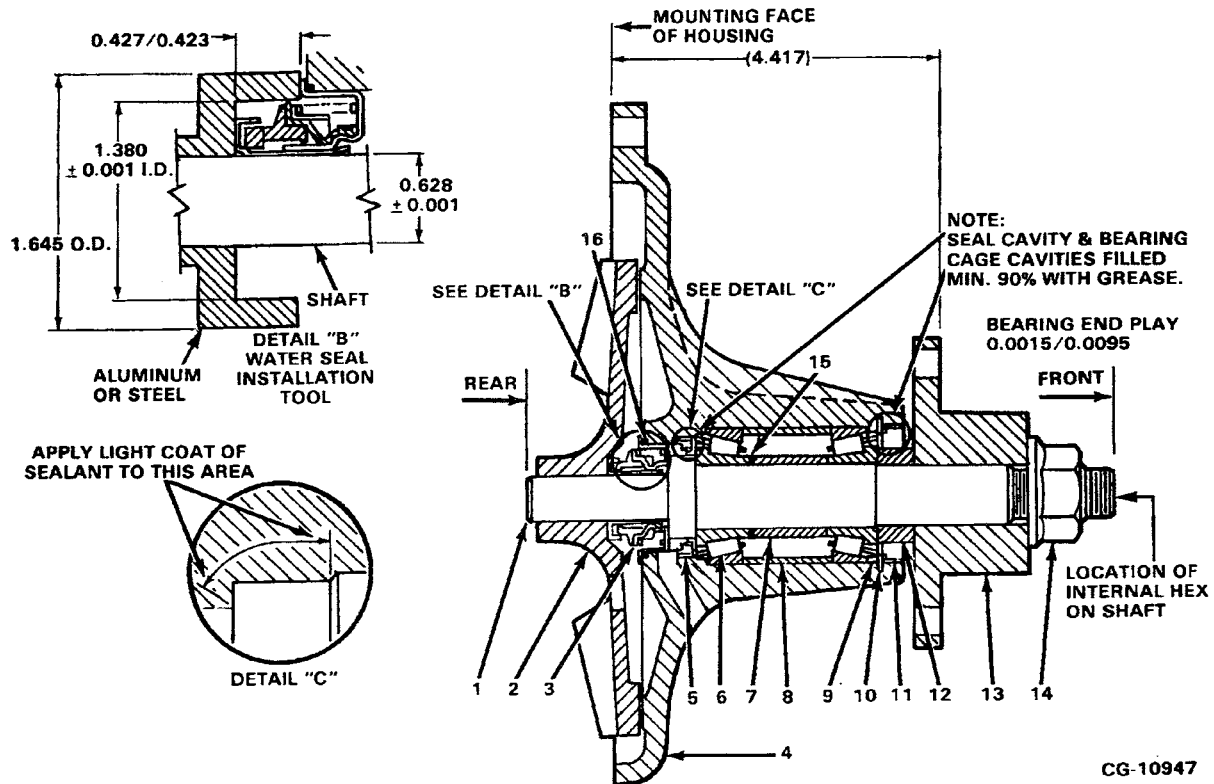
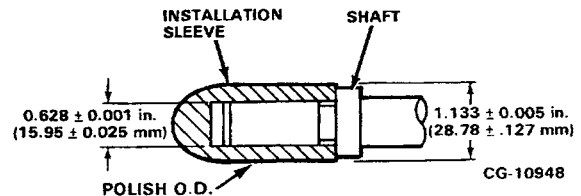

Figure 10.13. Cross Section of Water Pump
Figure 10.14. Shaft Installation Sleeve Fabrication
Inspect and repair the water pump as follows: (Reference numbers refer to **Figure 10.13**.)
(Reference numbers refer to Figure 10.13.)
1. Apply a coat of Aviation Permatex™ No. 3 to the rear bearing seal (5). See Detail "C", Figure 10.13.
2. Pack the new rear seal (5) cavity full of grease.\* Lubricate the rear seal O.D. and seal lip with grease.\* Press the new rear seal into the housing (4).
3. Prepack the rear roller bearing inner race assembly with grease.\* Support the shaft (1) at the impeller end and press the inner race assembly to bottom on the shoulder of the shaft.
4. Lightly lubricate the seal surface on the shaft (1) and the O.D. of the shaft installation sleeve with grease.\* Install the shaft into the front of the pump with the installation sleeve. Refer to Figure 10.14.
FABRICATE THE SHAFT INSTALLATION SLEEVE LOCALLY AS SHOWN IN FIGURE 10.14. ALWAYS INSTALL THE SHAFT USING THE INSTALLATION SLEEVE.
14. Install the front seal (11) and the housing (4) against the retaining ring (10).
15. Lightly lubricate the seal surface of the wear sleeve (12).
16. Install the wear sleeve (12).
17. Install the pulley hub (13) onto the shaft (1).
18. Apply clean engine oil to the threads and install the flange lock nut (14). Tighten the shaft to the "SPECIAL TORQUES" by turning the internal hex at the end of the shaft, while holding the nut.
19. Install a new O-ring (16) on the water pump seal (3) and press into the bearing housing (4) using the water pump seal installation tool. (See Detail "B", Figure 10.13.)
USE A SLEEVE (FIGURE 10.14) UNDER THE PRESS RAM WHEN PRESSING ON THE IMPELLER BECAUSE THE SHAFT WILL PROTRUDE SLIGHTLY ABOVE THE IMPELLER.